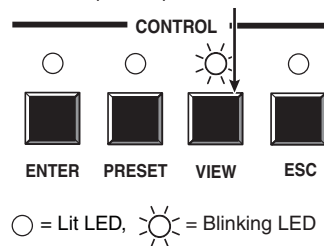

Figure 3-65 — Baud rate selection
3. **To change a value**, press and release the button that relates to the desired value (figure 3-65).